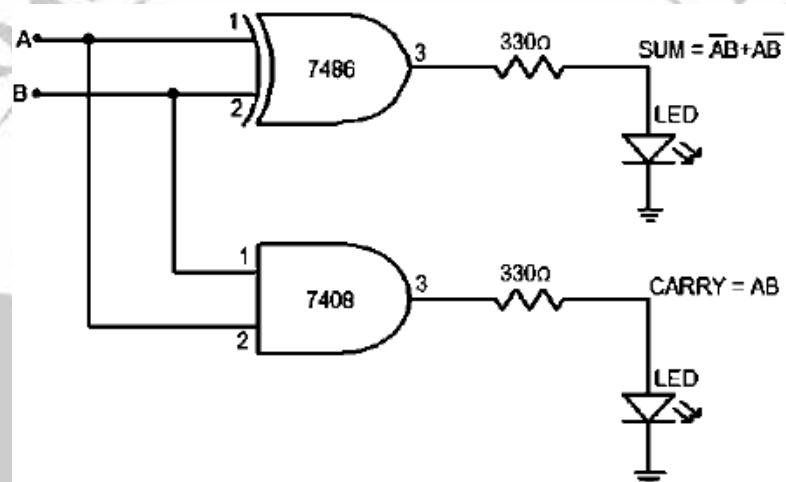

Fig 6.3: Half adder Circuit Diagram
2. Mount the IC on the breadboard and Make the connection as per figure 6.3.